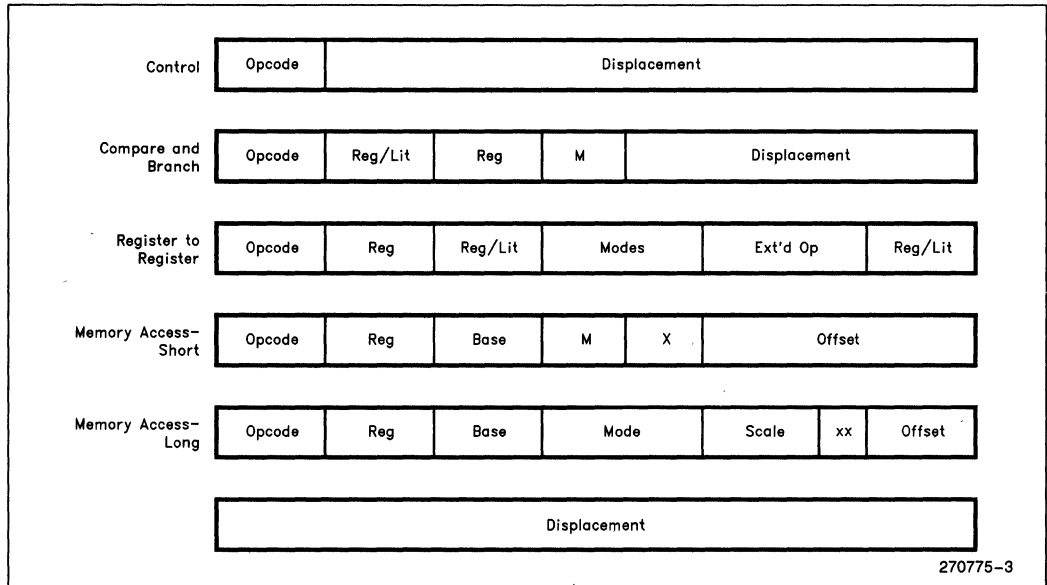

Figure 3. Instruction Formats
- 4. Simple Instruction Formats.** All instructions in the 80960KA are 32 bits long and must be aligned on word boundaries. This alignment makes it possible to eliminate the instruction alignment stage in the pipeline. To simplify the instruction decoder, there are only five instruction formats; each instruction uses only one format. (See Figure 3.)